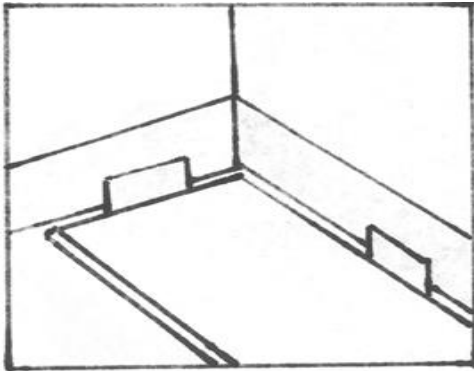
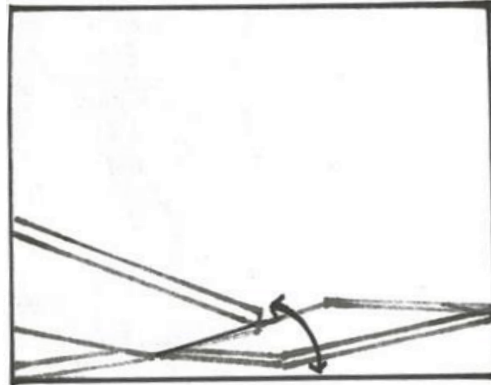

FIGURE 1
FIGURE 2
- Begin the first row working right to left. Insert minimum 1/4” spacers around the perimeter of the room allowing for proper expansion space. See figure 1. The tongue should be facing the wall. Insert the next plank to the left and connect the short joint (figure 2) at an angle, ensure a complete connection between the two.